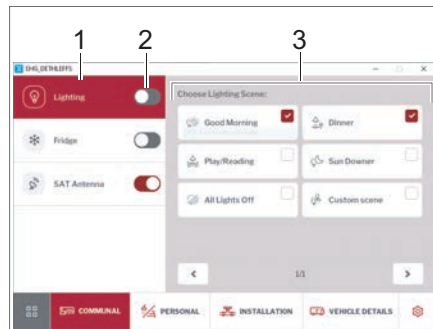

Fig. 256 Lighting
- Use the switch to turn the lighting (Fig. 256,2) on or off.
- Click on the *Lighting* (Fig. 256,1) button.
Select a lighting mode in the control panel (Fig. 256,3).